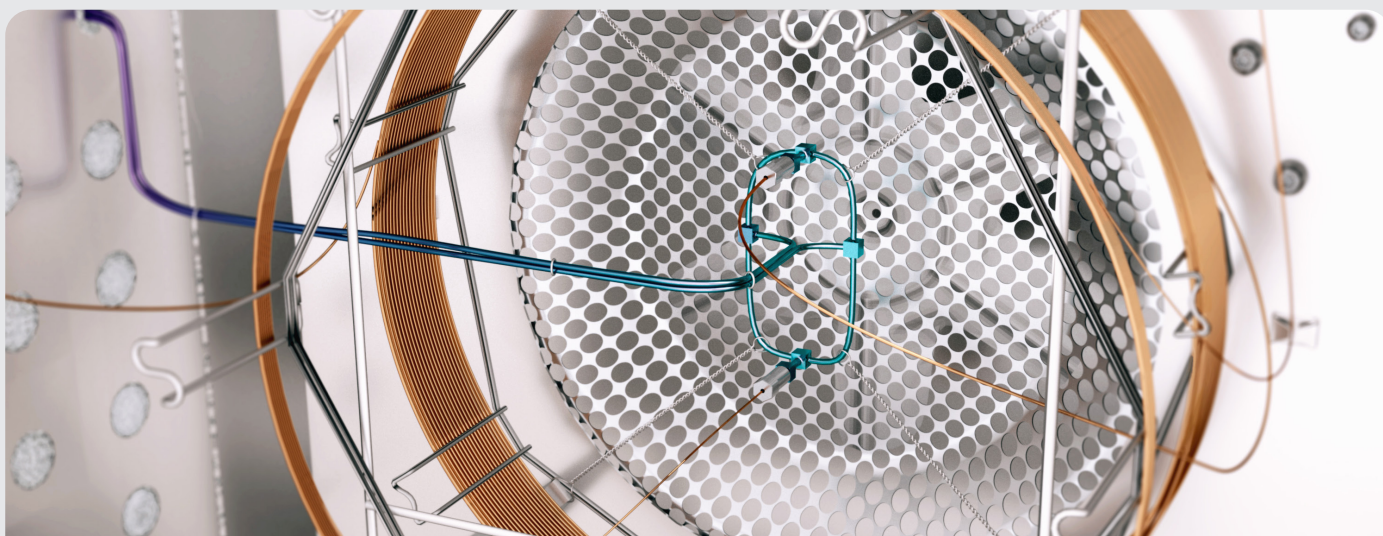

Figure 1: GCxGC solution installed in a GC oven
JAS offers a patented solution of GCxGC Comprehensive Chromatography (Figure 1). The heart of a GCxGC system is a special interface between the two columns (modulator). Effluent of the first column is collected for a certain period of time and periodically injected at a selected time interval into the second column by means of this modulator device. Thus, the main functions of the modulator are (I) collecting/trapping, (II) refocusing, and (III) rapidly release of the collected fragments. Without periodically sampling of the first column effluent by means of a modulator, fragments might recombine in the second column and co-elute at the detector.